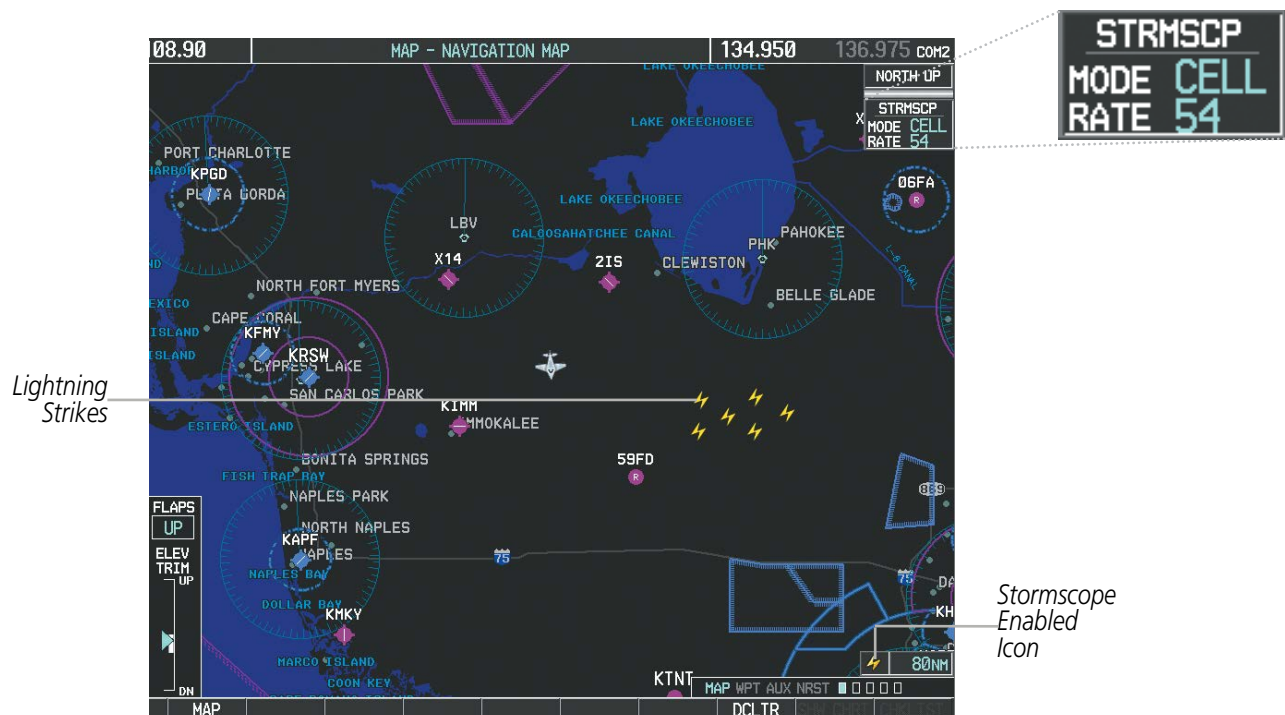

Figure 6-57 Navigation Map Page with Stormscope Lightning Data
- 7) Press the **FMS** Knob to return to the Navigation Map Page (Figure 6-57).
On the Navigation Map, cell mode identifies cells of lightning activity (Figure 6-57). Stormscope identifies clusters of electrical activity that indicate cells. Strike mode indicates the approximate location of lightning strikes. When Stormscope is enabled on the Navigation Map, a STRMSCP Window appears. This window indicates the selected Stormscope mode and lightning strike rate.